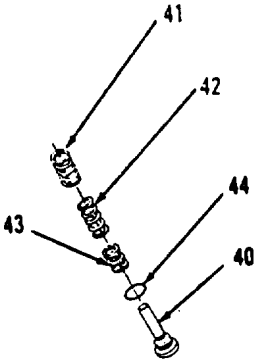

Figure 10-86.
- 8. Install new preformed packing (44), spacers (43), shim(s) (42) and spring (41) on plug (40, Figure 10-86). Install correct quantities of shim(s) and spacers. Refer to chart.